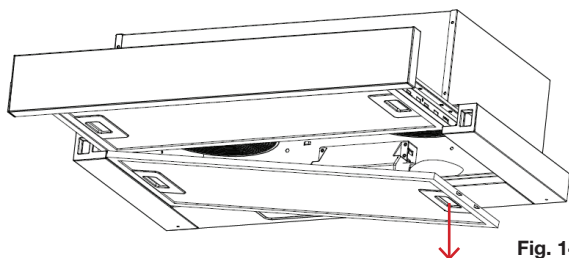

Fig. 14
- Push in the plastic opening latch and take the filters out of their frames (Fig. 14).